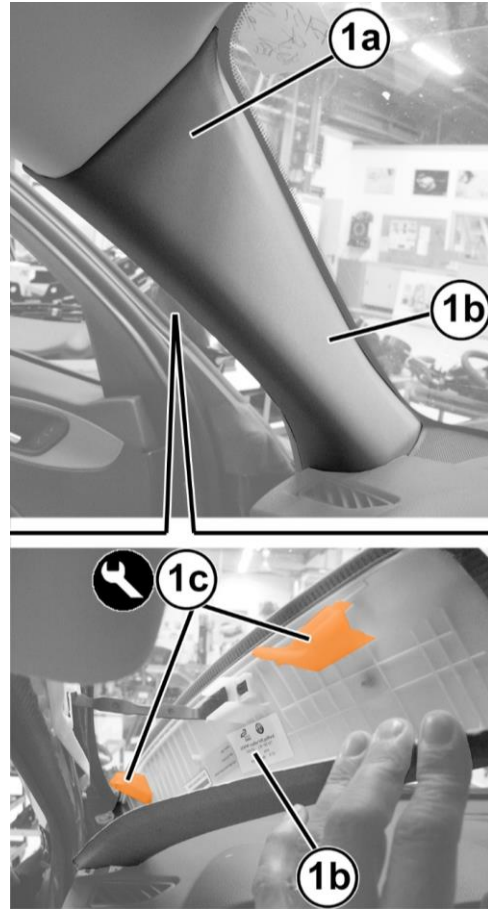

Figure 20 – A-Pillar Trim
48. Using a trim stick or equivalent, released the A-pillar trim retaining clips (1c) and lower the trim panel (1b) (Figure 20).
13. Starting at the bottom of the A-pillar trim panel, align the retaining clips and hand tap to engage (Figure 20).